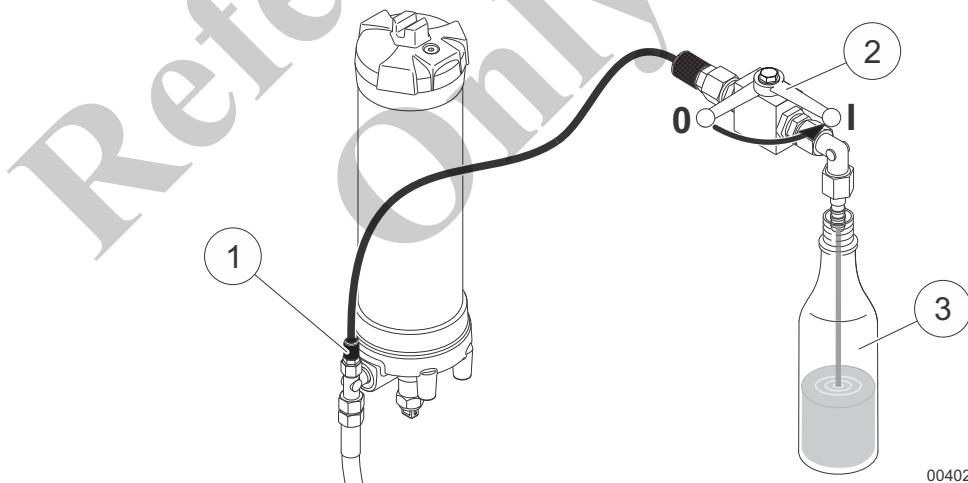

Fig. 4 Draining flushing oil
- 4 Remove the protective cap from the measurement connection (1) in Fig. 4.
- 5 Connect the device for removing hydraulic oil samples (2) in Fig. 4 to the measurement connection (1) in Fig. 4 and drain around 0.25 l hydraulic oil into an empty container (3) in Fig. 4.